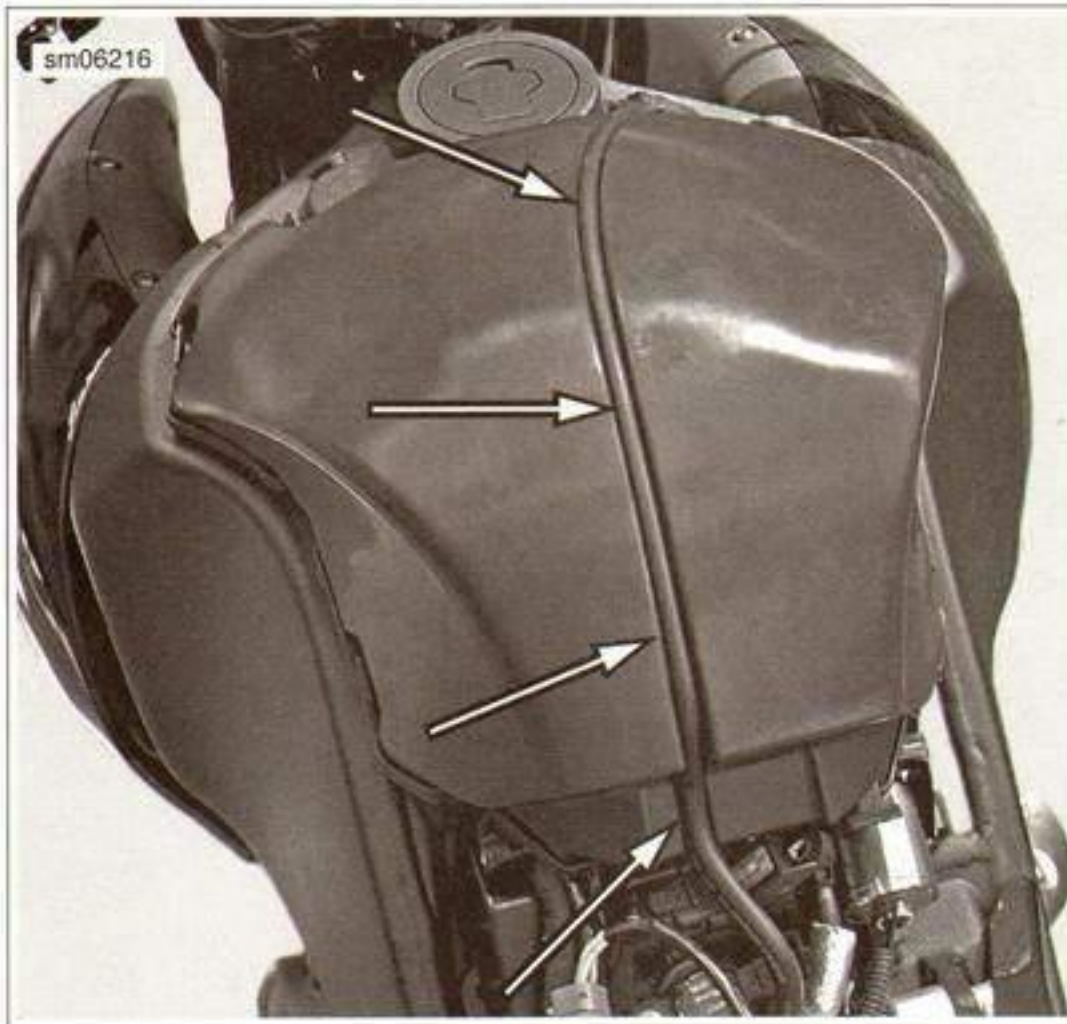

Figure 4-57. Vent Valve Hose Routing
2. See Figure 4-57. Route the soft hose up and over the air filter cover.